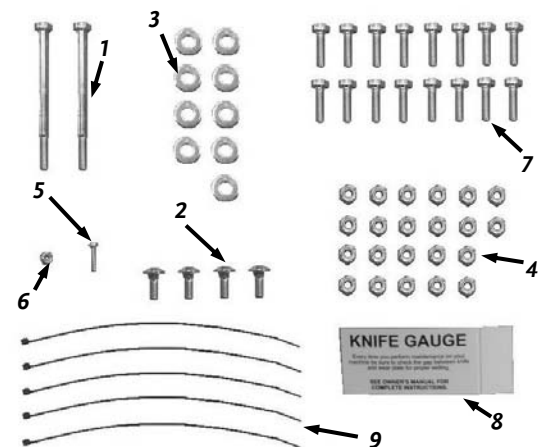

Figure 4
- Product Package Containing: Owners Manual, Wire Harness and Hardware Package Containing: (items in table below and **Figure 4**)